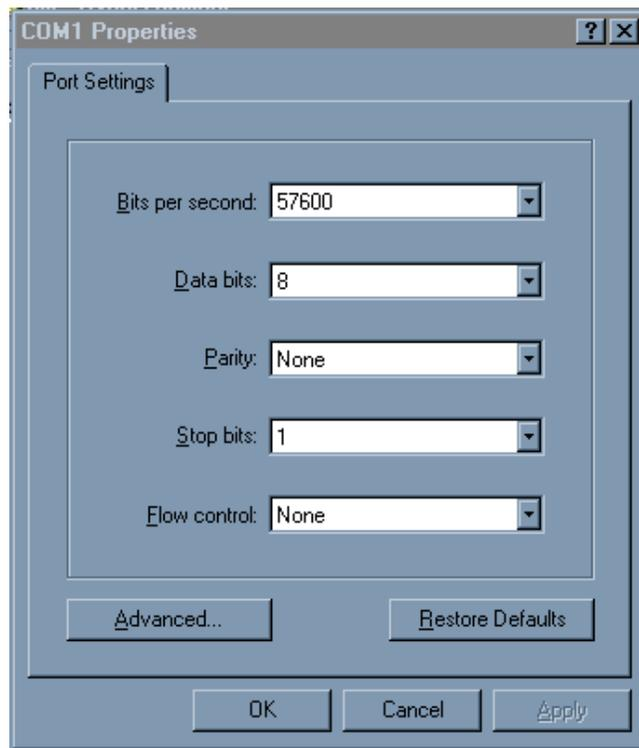

Figure 5-3. HyperTerminal Port Settings Box
4. You will be prompted for the selected port settings. Enter the settings shown in Figure 5-3. Then click OK.